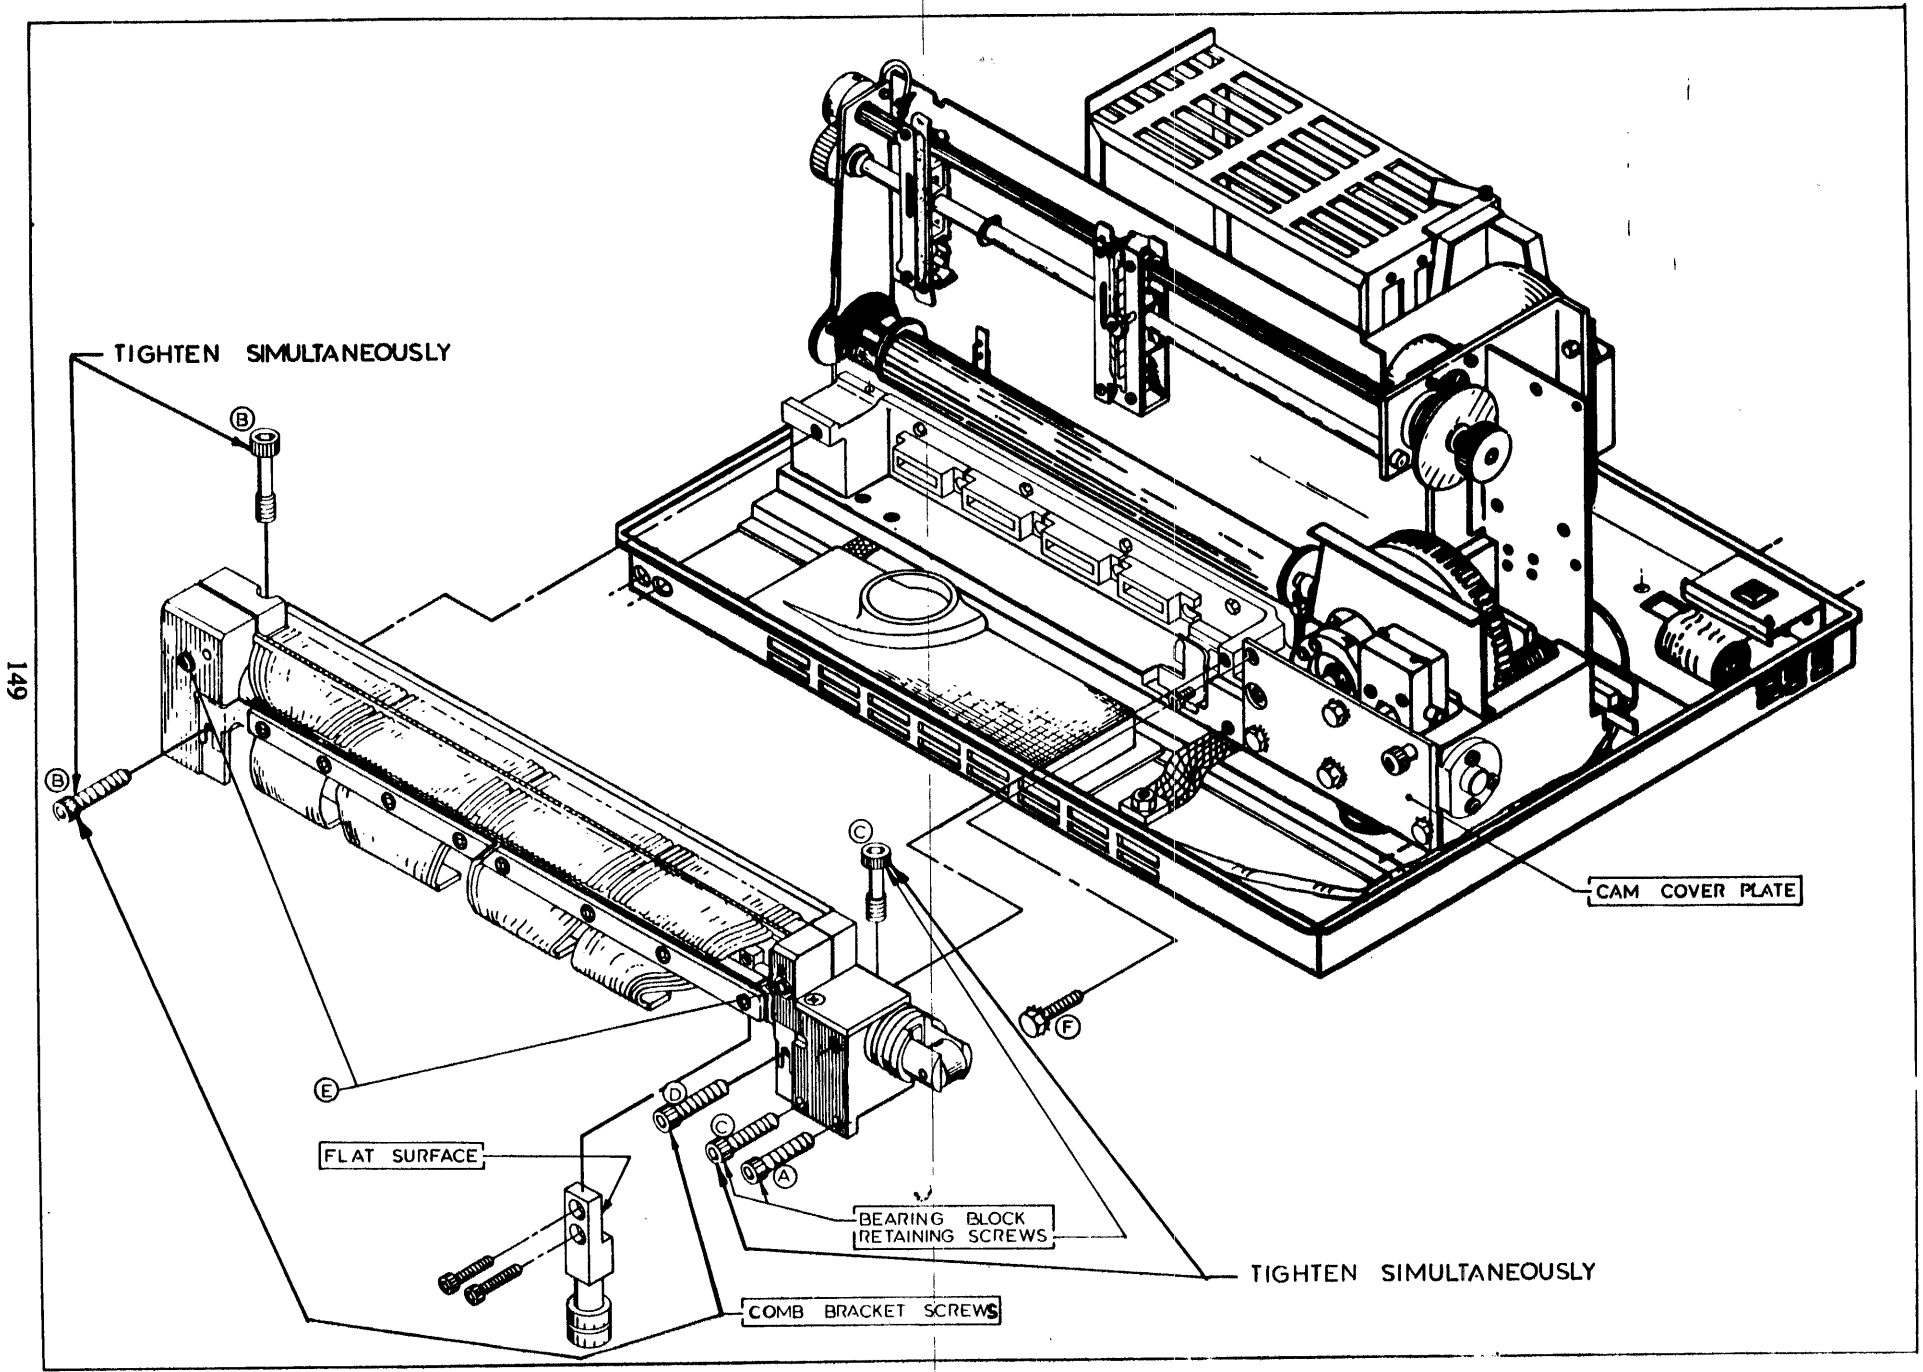

Figure 93 Installing the Shuttle Assembly
To install a new Shuttle Assembly, refer to **Figure 93** and proceed as follows:
- c. Insert and hand tighten all of the bearing block retaining screws **(Items A through D and F, Figure 93)**.
- d. Use two wrenches to simultaneously tighten both the rear left bearing block retaining screw and the left comb bracket screw **(Item B, Figure 93)**.
- e. Again using two wrenches, simultaneously tighten the two right bearing block screws **(Item C, Figure 93)**.
- f. Tighten the remaining right bearing block retaining screws **(Items A and F, Figure 93)**.
- g. Loosen both of the comb bracket screws **(Items B and D, Figure 93)**.
- i. Put the comb brackets in place and tighten their retaining screws **(Items B and D, Figure 93)**.
- m. While the shuttle is operating, torque each bearing clamp bolt **(Item E, Figure 93)** to 36 inch pounds. Recycle the ON LINE pushbutton off and on to continue the shuttle action.